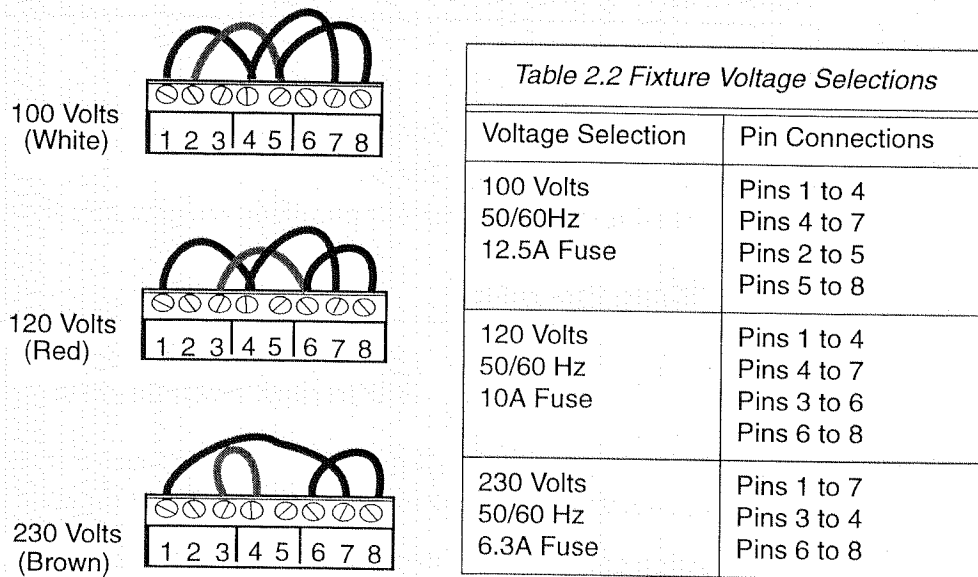

Figure 2.6. Voltage Selection Configurations
- Using a small screwdriver, reconfigure the jumpers according to Table 2.2 and the drawings in Figure 2.6. Also notice in Table 2.2 the fuse size that is associated to each voltage setting.
**Note:** the orientation of the jumpers is left to right, one through eight as Figure 2.6 shows.